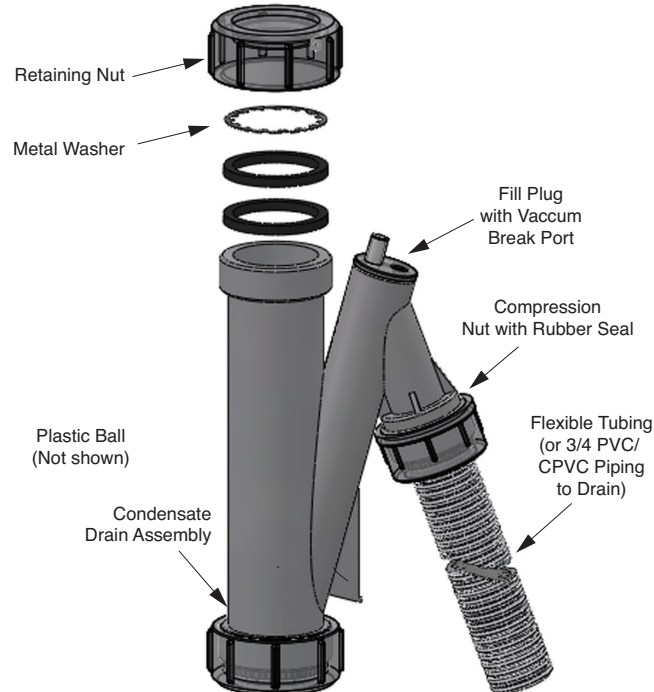

Fig. 14 - Condensate Drain Assembly
1. Locate the condensate drain assembly and ensure the metal washer is installed as shown in *Fig. 14 on page 24*.